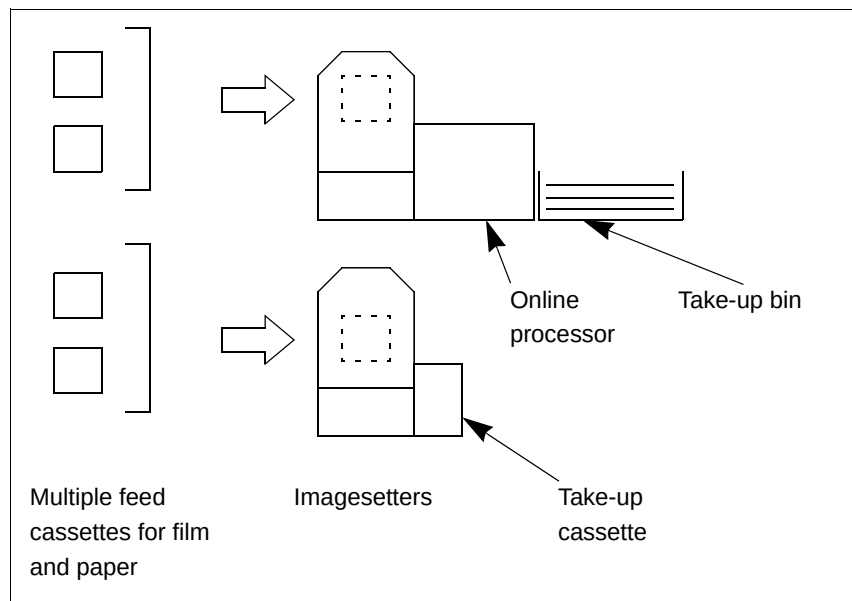

Figure 9.1 Using multiple output devices and cassettes
- I Figure 9.1 on page 260 shows a possible printing environment. This environment can produce several operational needs.
Figure 9.1 shows two possible schemes for advancing and cutting media automatically. The RIP supports these schemes and many others.